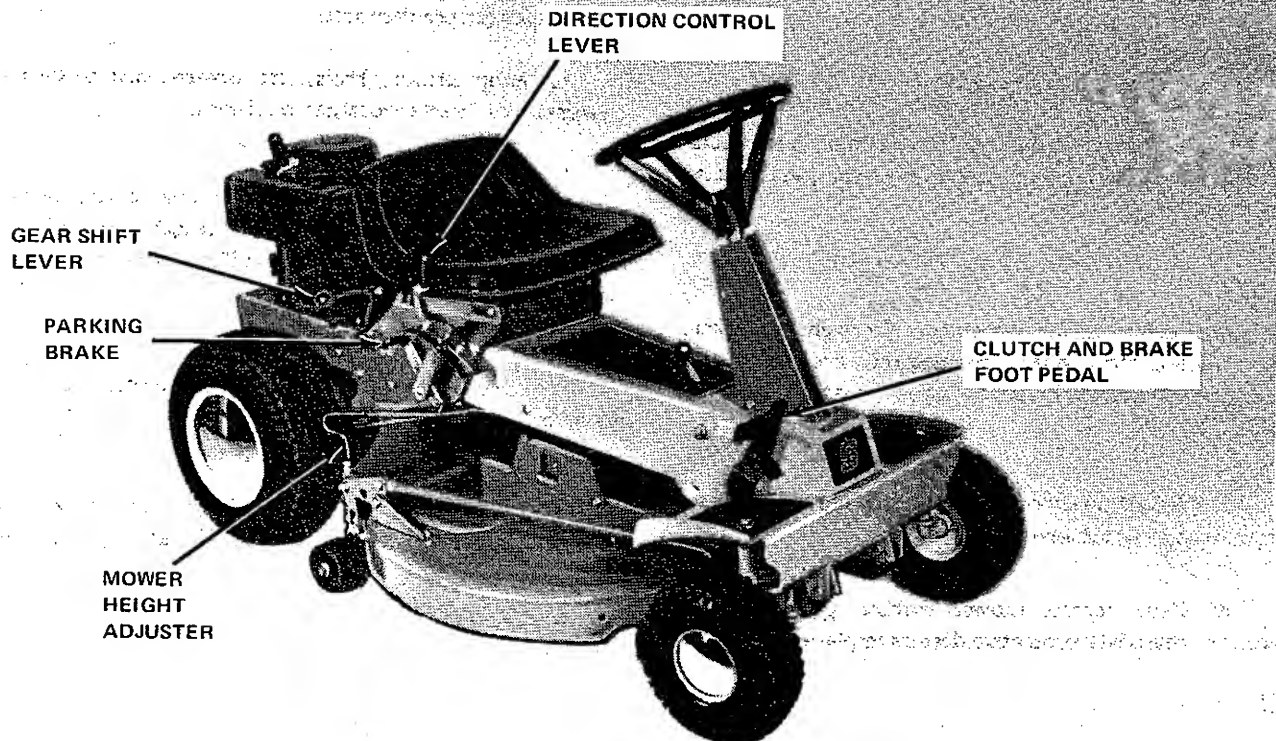
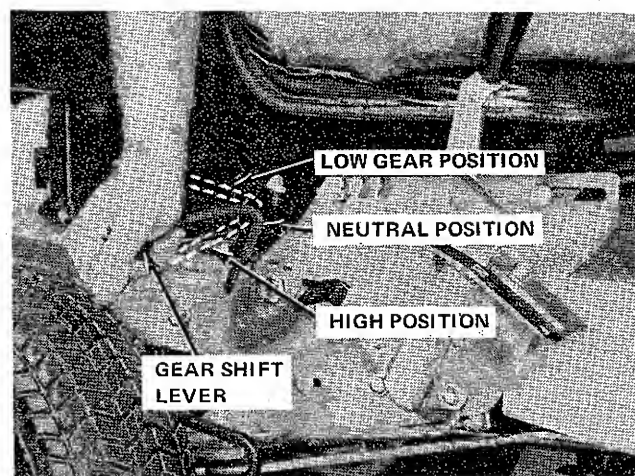

Figure 3-2. Right Side Operation Controls
Figure 3-9. Gear Shift Lever Positioning
1. Clutch and Brake Foot Pedal (Figure 3-2). Push pedal down to declutch and apply brake simultaneously. Vehicle may be stopped by depressing clutch pedal or by retaining direction control lever to NEUTRAL without depressing clutch pedal.
3. Mower Height Adjuster (Figure 3-2). The height adjusting handle raises and lowers the mower at both front and rear. Turn handle CLOCKWISE to raise, COUNTER-CLOCKWISE to lower.
4. Gear Shift Lever (Figure 3-2). Depress clutch and brake foot pedal and place the shift lever in the desired position. The upper position places the transmission in LOW gear, the middle position in NEUTRAL, and the lower position in HIGH gear (Figure 3-9). Gear shift lever must be in NEUTRAL when starting.
5. Direction Control Lever (Figure 3-2). The direction control lever controls the direction of travel. To position lever in either FORWARD, NEUTRAL, OR REVERSE, it is necessary to pull handle inward from notch and then move either forward or rearward as desired.
7. Parking Brake (Figure 3-2). To apply parking brake, push lever down.
A. Place controls (Figures 3-2 and 3-3) in following positions:
2. Gear Shift Lever-NEUTRAL (Figure 3-9).
C. Have the front wheels centered straight ahead and hold the steering wheel with one hand. Move the gear shift lever to HI or LO as desired. (Figure 3-9.) Remember to push downward for HIGH gear or lift upward for LOW gear on the shift lever.